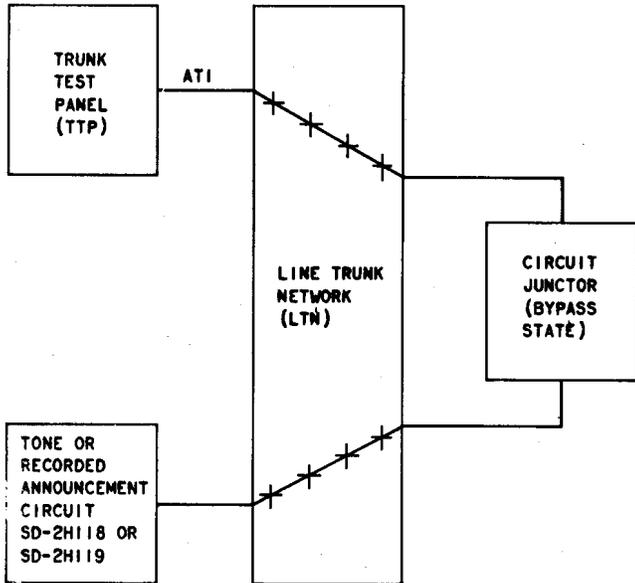

Fig. 1—Test Configuration Using Trunk Test Panel When Testing a Tone or Recorded Announcement Circuit With or Without Audible Ring
3.03 Use the following procedure to make the circuit traffic busy and to connect it to the TTP (Fig. 1).